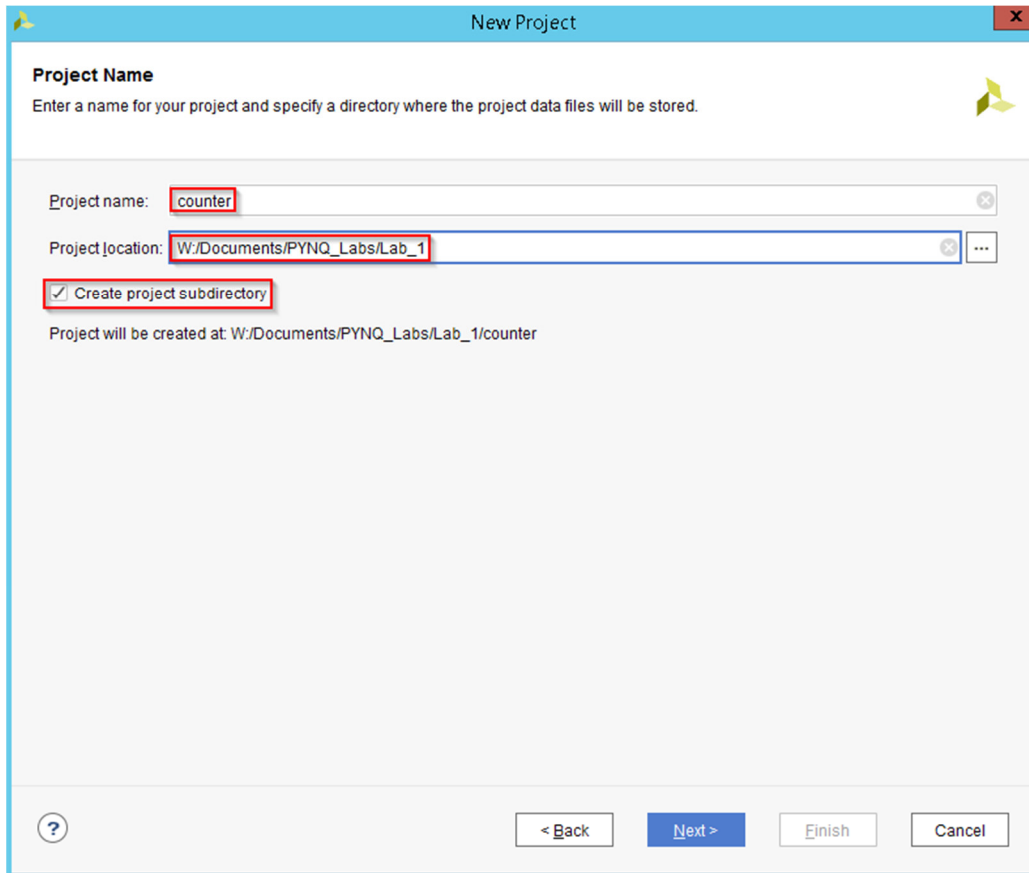

**Figure 2: Launching Vivado IDE**
1. If you want to use **Remote Desktop**, then read the *RemoteDesktopGuide.pdf* in order to connect to the Remote Desktop. After connecting you can open Vivado from the Start menu by pressing the **Windows Key** -> type **Vivado** -> select **Vivado 2017.2**. The Vivado IDE opens as shown in Figure 2. The Vivado IDE lets you manage the sources and processes in your project.